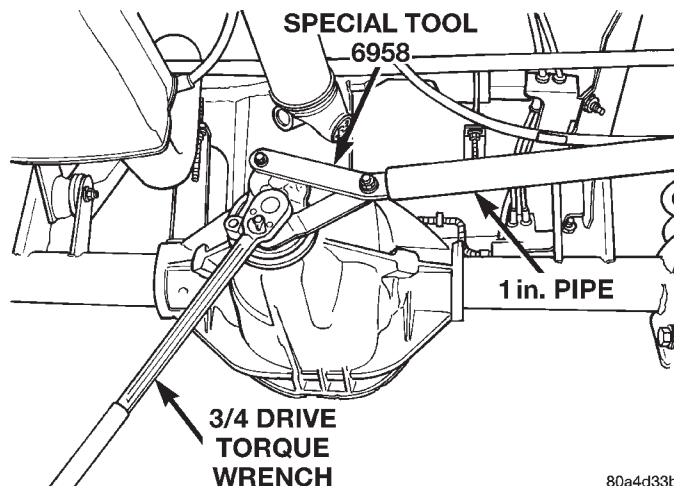

Fig. 21 Tightening Pinion Nut
(9) Using yoke holder 6958, a short length of 1 in. pipe, and a torque wrench set at 474 N·m (350 ft. lbs.), crush collapsible spacer until bearing end play is taken up (Fig. 21).